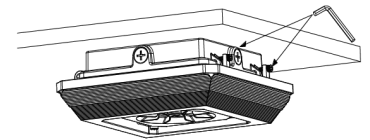

Figure 2-8
8. Lock the two end cap screws, the product is installed. Figure 2-8